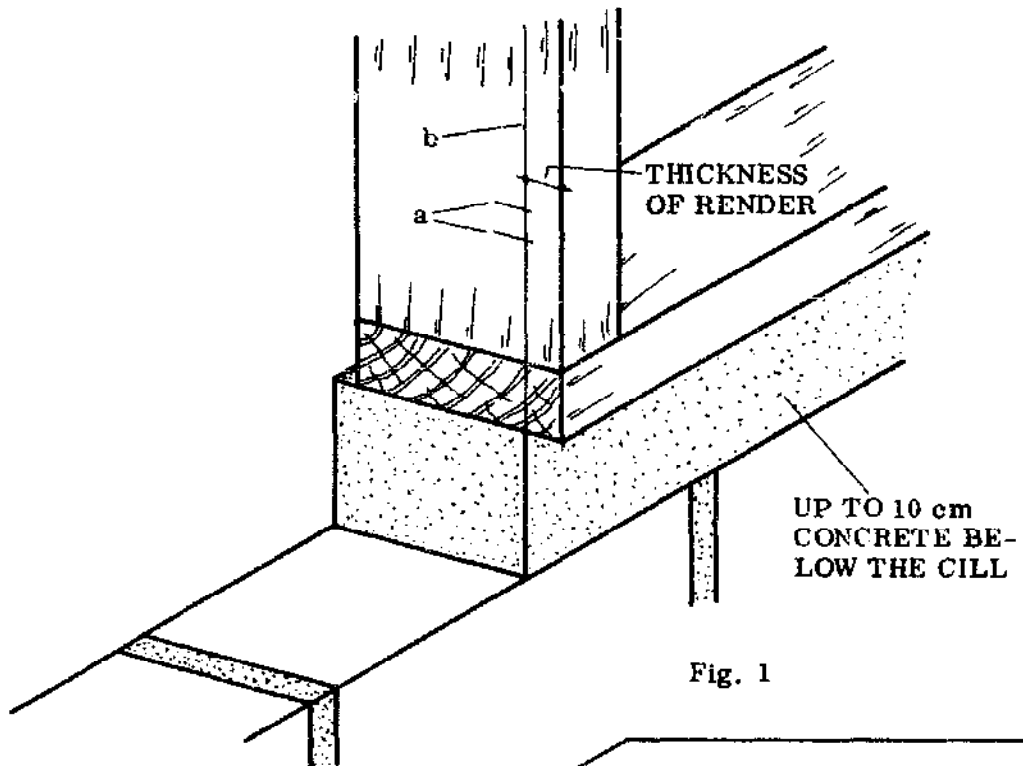

Fig. 1
- **NOTE:** The window frame does not rest directly on the landcrete wall; this would provide a path for moisture to get into the landcrete and weaken or damage it. The window frame is set upon a bed of concrete or cement mortar (Fig. 1, A).